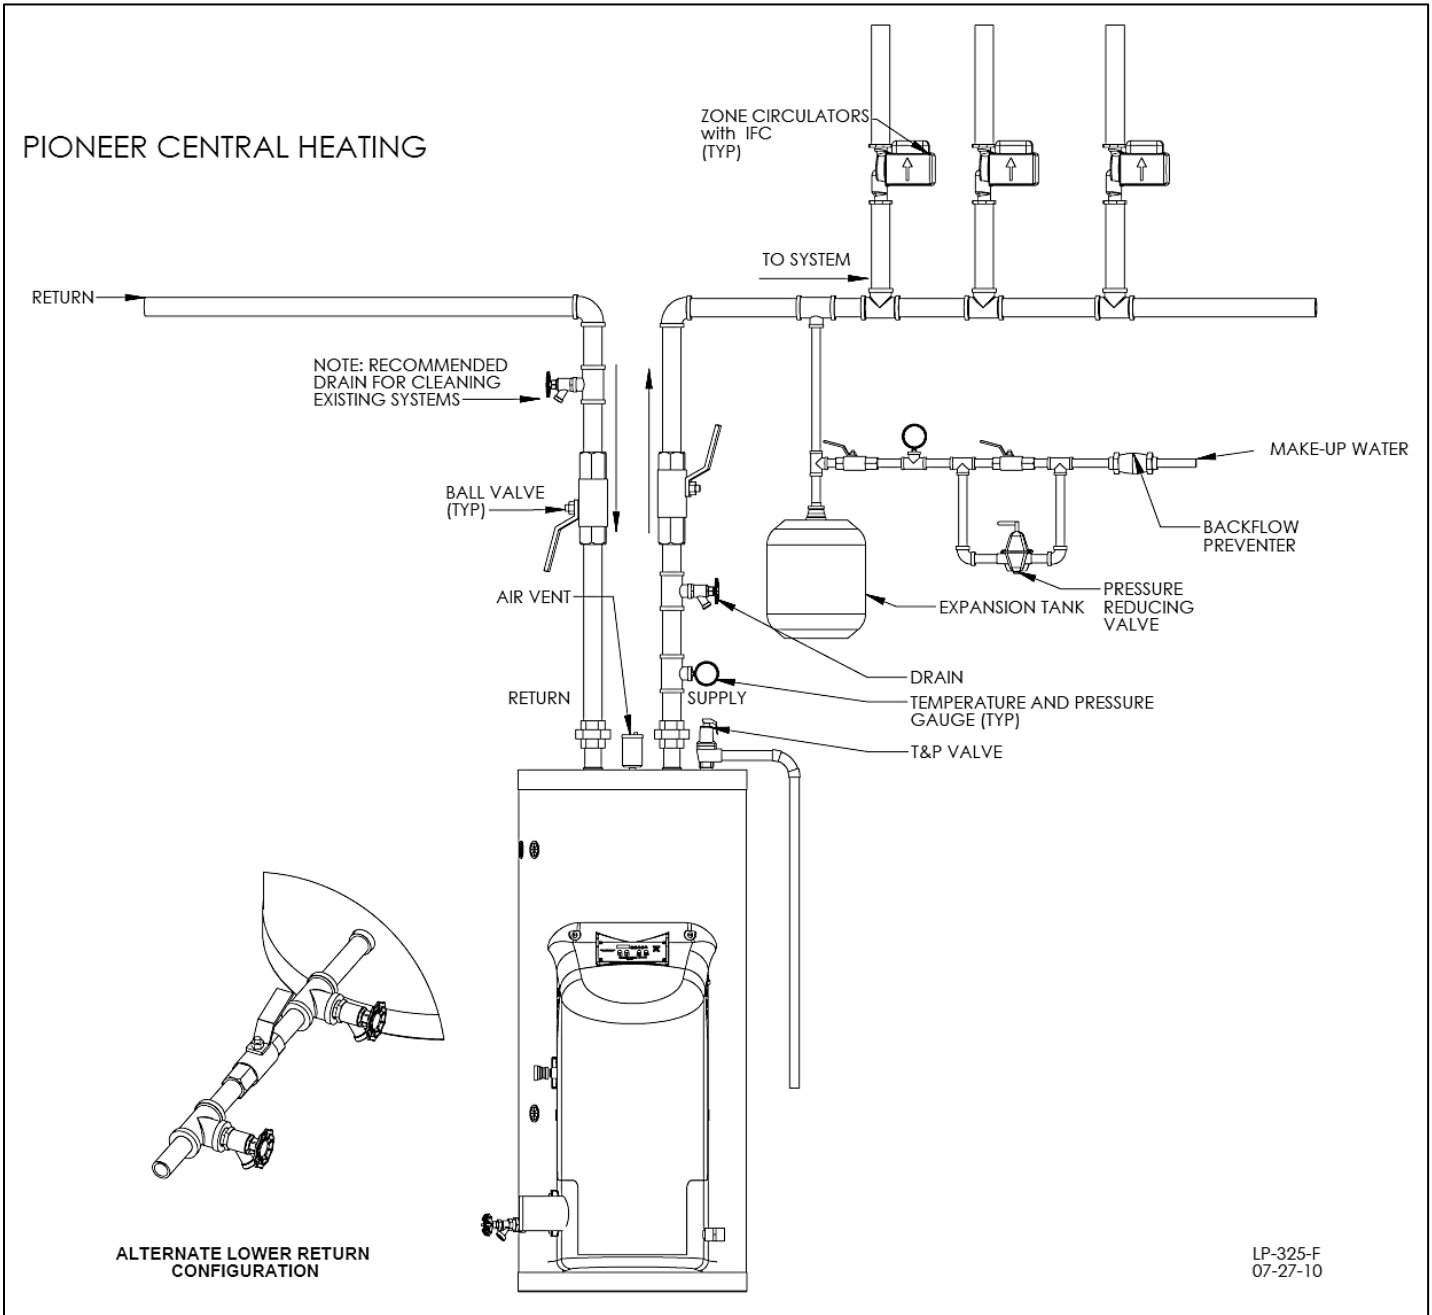

Figure 4 –Central Heating Detail – LP-325-F
1. Turn both the hot and cold water supplies on. Open an outlet, preferably a sink or basin faucet rather than a shower. To calibrate, let water run for 2 minutes and measure the outlet temperature with a thermometer. Adjust the green cap counter clockwise to increase temperature and clockwise to decrease temperature, as shown in Fig. 4.